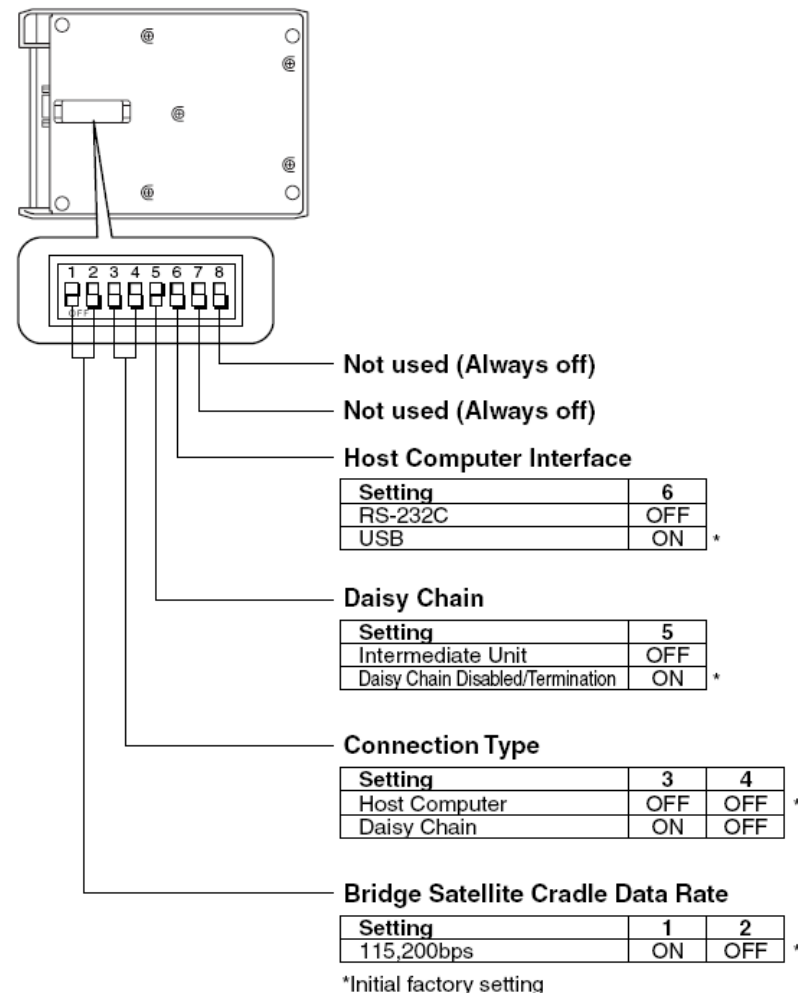

Figure 4.1
1. First, set up no. 6 of the DIP switch (see Figure 4.1) on the bottom of the HA-B61IO according to the cable you use, either DT-887AXA or DT-380USB.
Other switches are not needed to change. Make sure that all the switches except no. 6 are at the initial positions (see Figure 4.1).